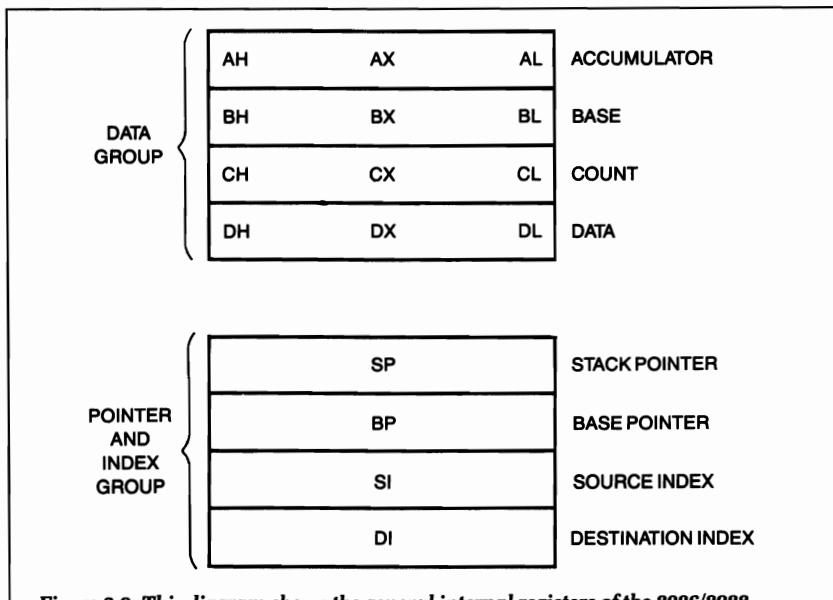

Figure 2.9: This diagram shows the general internal registers of the 8086/8088.
Figure 2.9 shows the general registers of the 8086/8088. We can see in this figure that there are two main groups: the data group, and the pointer and index group. Each register is 16 bits wide. The data group is labeled AX, BX, CX and DX. They can be used as a single 16-bit register or as two 8-bit registers. When used as two 8-bit registers, they are divided into an upper (H) and lower (L) half, labeled AH, AL, BH, BL, CH, CL, and DH, DL.
The pointer and index group of registers (shown in Figure 2.9) are used only as 16-bit registers. These registers are labeled SP (stack pointer), BP (base pointer), SI (source index), and DI (destination index). The reasoning behind these names will become clear later on in the text when we discuss the various addressing modes and show programming examples for the 8086/8088. For now, it is only important to know that these registers exist, and how they are organized.